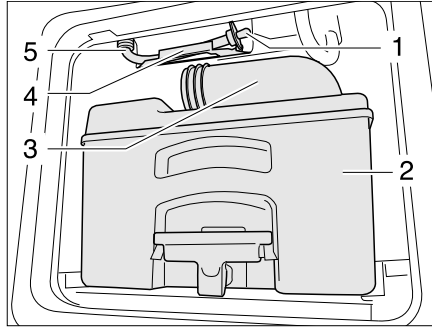

Fig. 373 Toilet water tank drain hose
- Empty the cassette (Fig. 373,2) at a disposal station authorized for this purpose and clean it.
- Leave the drainage neck (Fig. 373,3) open.
- Remove the drain hose (Fig. 373,5) from the holder (Fig. 373,4).
- Remove the drain plug (Fig. 373,1) and let the residual water run out.